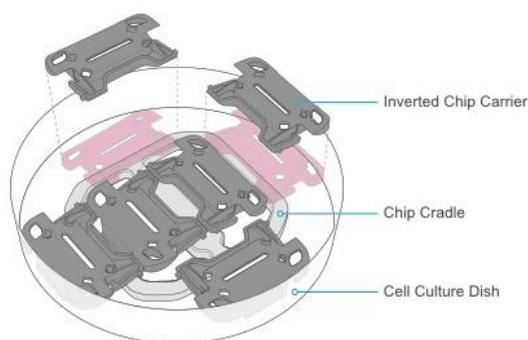

Figure 6: Inverting chips during endothelial attachment
7. After confirming the correct cell density, seed cells in the remaining chips, invert each chip, and rest the edge of the chip carrier on the chip cradle. Note: Each chip cradle can support up to 6 chips inside a 150 mm cell culture dish. (See Figure 6.)